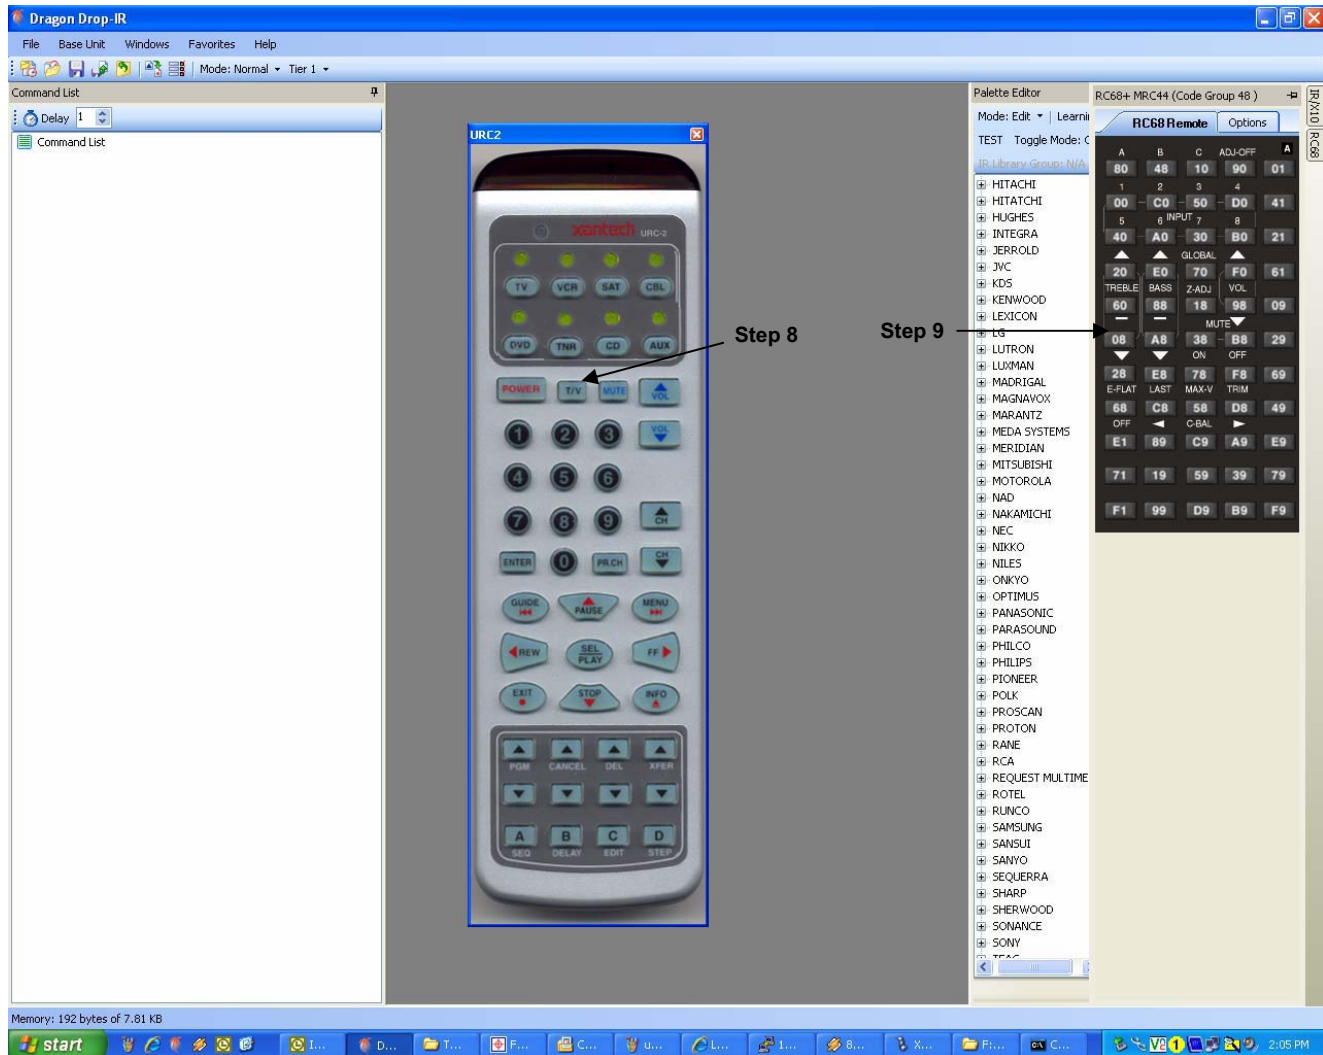

Figure 27b – URC-2Drag450 Programming
8. Click on the desired button on the virtual URC-2 you wish to trigger the macro created on the CSPLCD (i.e. CD Button as shown in **Figure 27b** below).